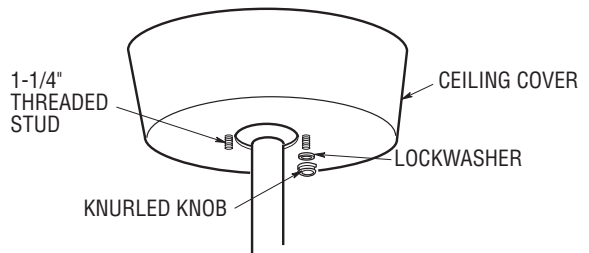

Figure 15
- 6. Screw the two 1-1/4" threaded studs (supplied) into the tapped holes in the hanger bracket (Figure 15).
- 7. Lift the ceiling cover up to the threaded studs and turn until studs protrude through the holes in the ceiling cover (Figure 15).
- 8. Secure the ceiling cover in place by sliding lockwashers (supplied) over the threaded studs and installing the two knurled knobs (supplied). (Figure 15.) Tighten the knurled knobs securely until the ceiling cover fits snugly against the ceiling and the hole in the ceiling cover is clear of the downrod. Your fan is now wired to be turned on and off from the fan switch.